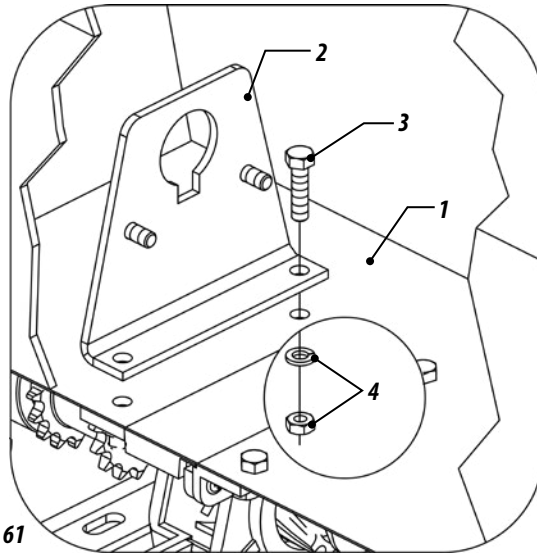

Figure 61
2- Place on the bottom of the seed box (1) the support (2) with screw (3), washer and nut (4), Figure 61;